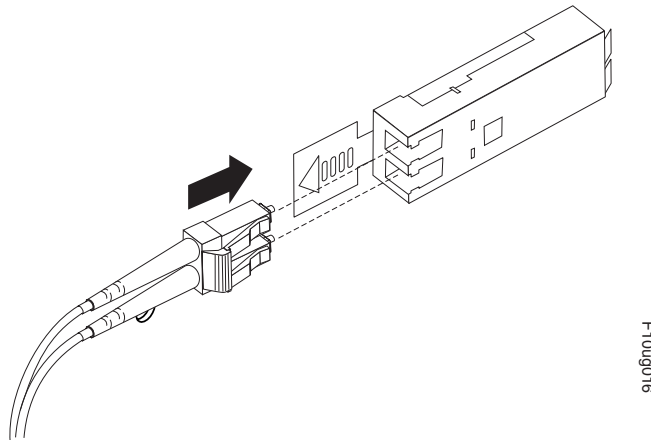

Figure 33. Inserting an LC-LC fibre-channel cable into an SFP module
4. Carefully insert this end of the LC-LC cable into an SFP module that is installed in the DS4800. The cable connector is keyed to ensure it is inserted into the SFP module correctly. Holding the connector, push in the cable until it clicks into place, as shown in Figure 33.